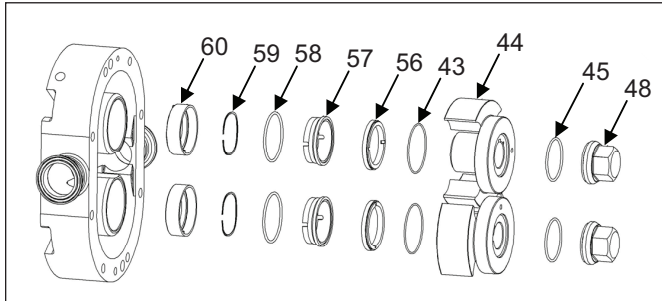

Figure 25. Single Mechanical Exploded View
- 3. Remove the rotors by orientating them perpendicular to each other and then pulling them out. It is important to be cautious with the rotors so that they are not damaged. If rotors are difficult to remove, use a nylon or wood lever to pry them out without damaging the body or the rotors. If necessary, remove the body hold down screws and tap the body forward to loosen the rotors. Use (Figure 25) to ensure that all parts are removed.